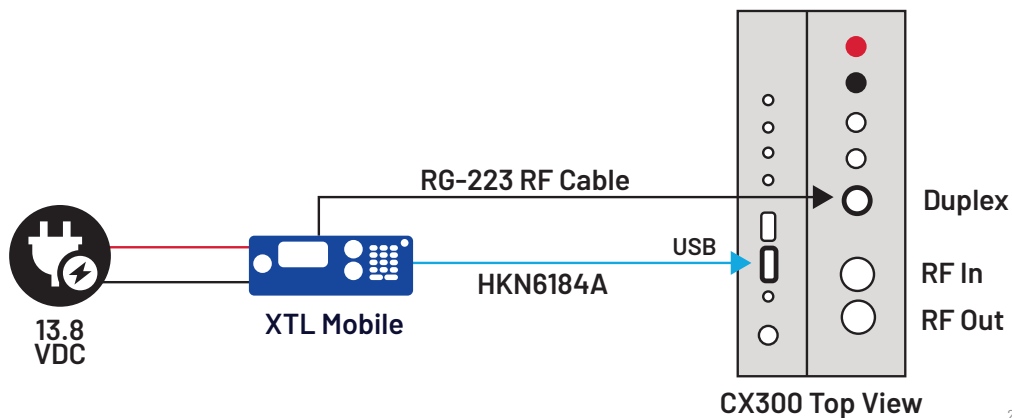

Figure 4. Mobile With No Shunt
- With the connected radio turned on, tap **“Read Device”** (Fig. 4)